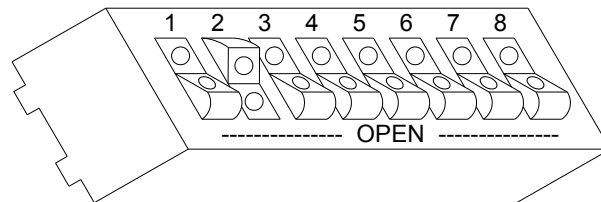

Figure 3: Dip switches on back of tachometer
- 4) Set the tachometer dip switches to the appropriate cylinder setting for your signal. Refer to Table 2 and Figure 3 below.